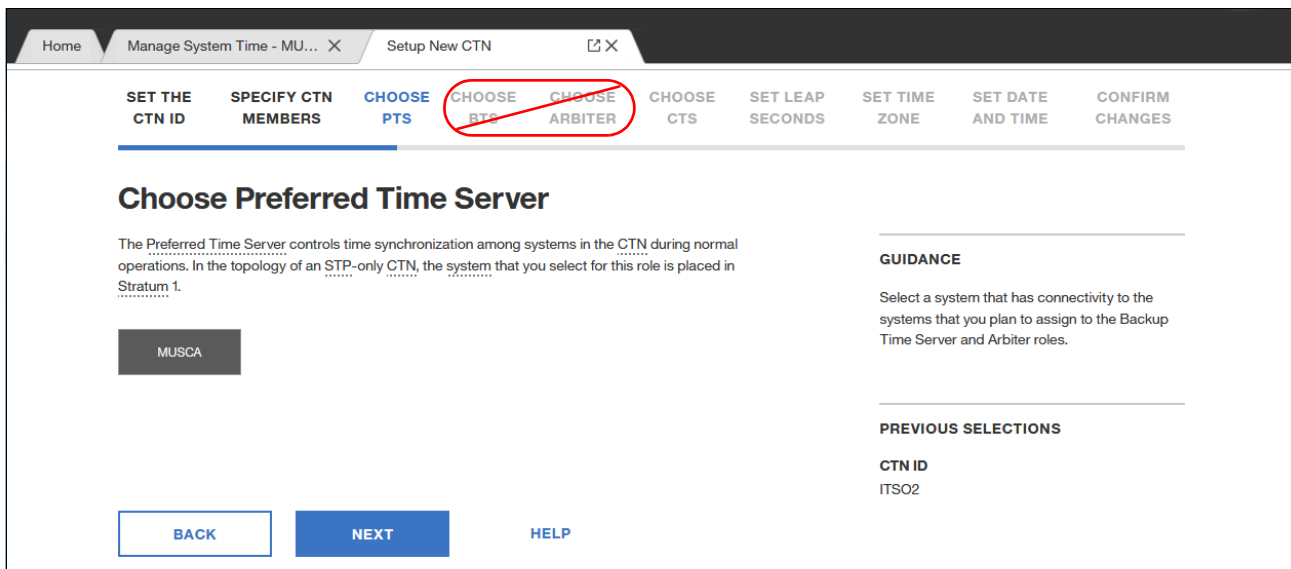

Figure 16-13 Selecting the PTS
5. We select our CPC (see Figure 16-13) as the Preferred Time Server (PTS) and skip selecting a BTS and Arbiter.